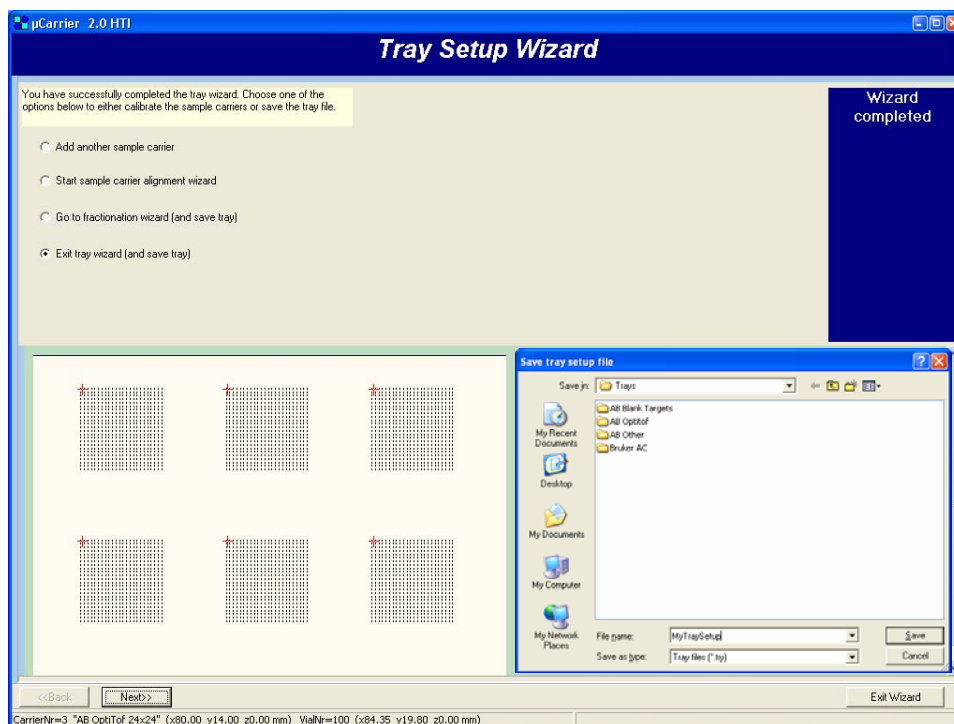

FIGURE 2-32 Tray Setup Wizard – 6 Sample Carriers added
- f) If you want to add another sample carrier, or if you want to define a waste or a wash position, select the **Add another sample carrier** option and repeat the steps above (FIGURE 2-32).
- g) To finish the wizard and to save your setup, select the **Exit tray wizard ...** option (FIGURE 2-32). Alternatively, you can start the *Sample Carrier Alignment Wizard* (Section 2.7.3) or the *Fractionation Application Wizard* (Section 2.8.4).